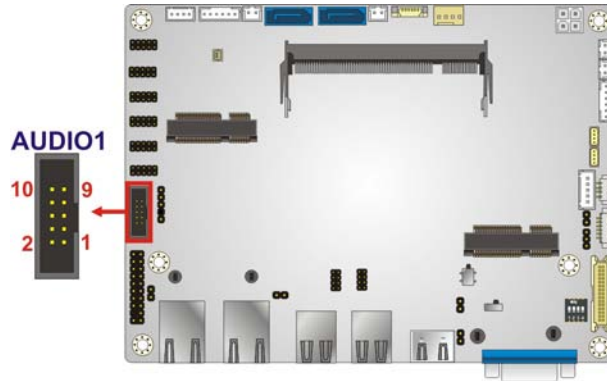

Figure 3-3: Audio Connector Location
- CN Location: See **Figure 3-3**